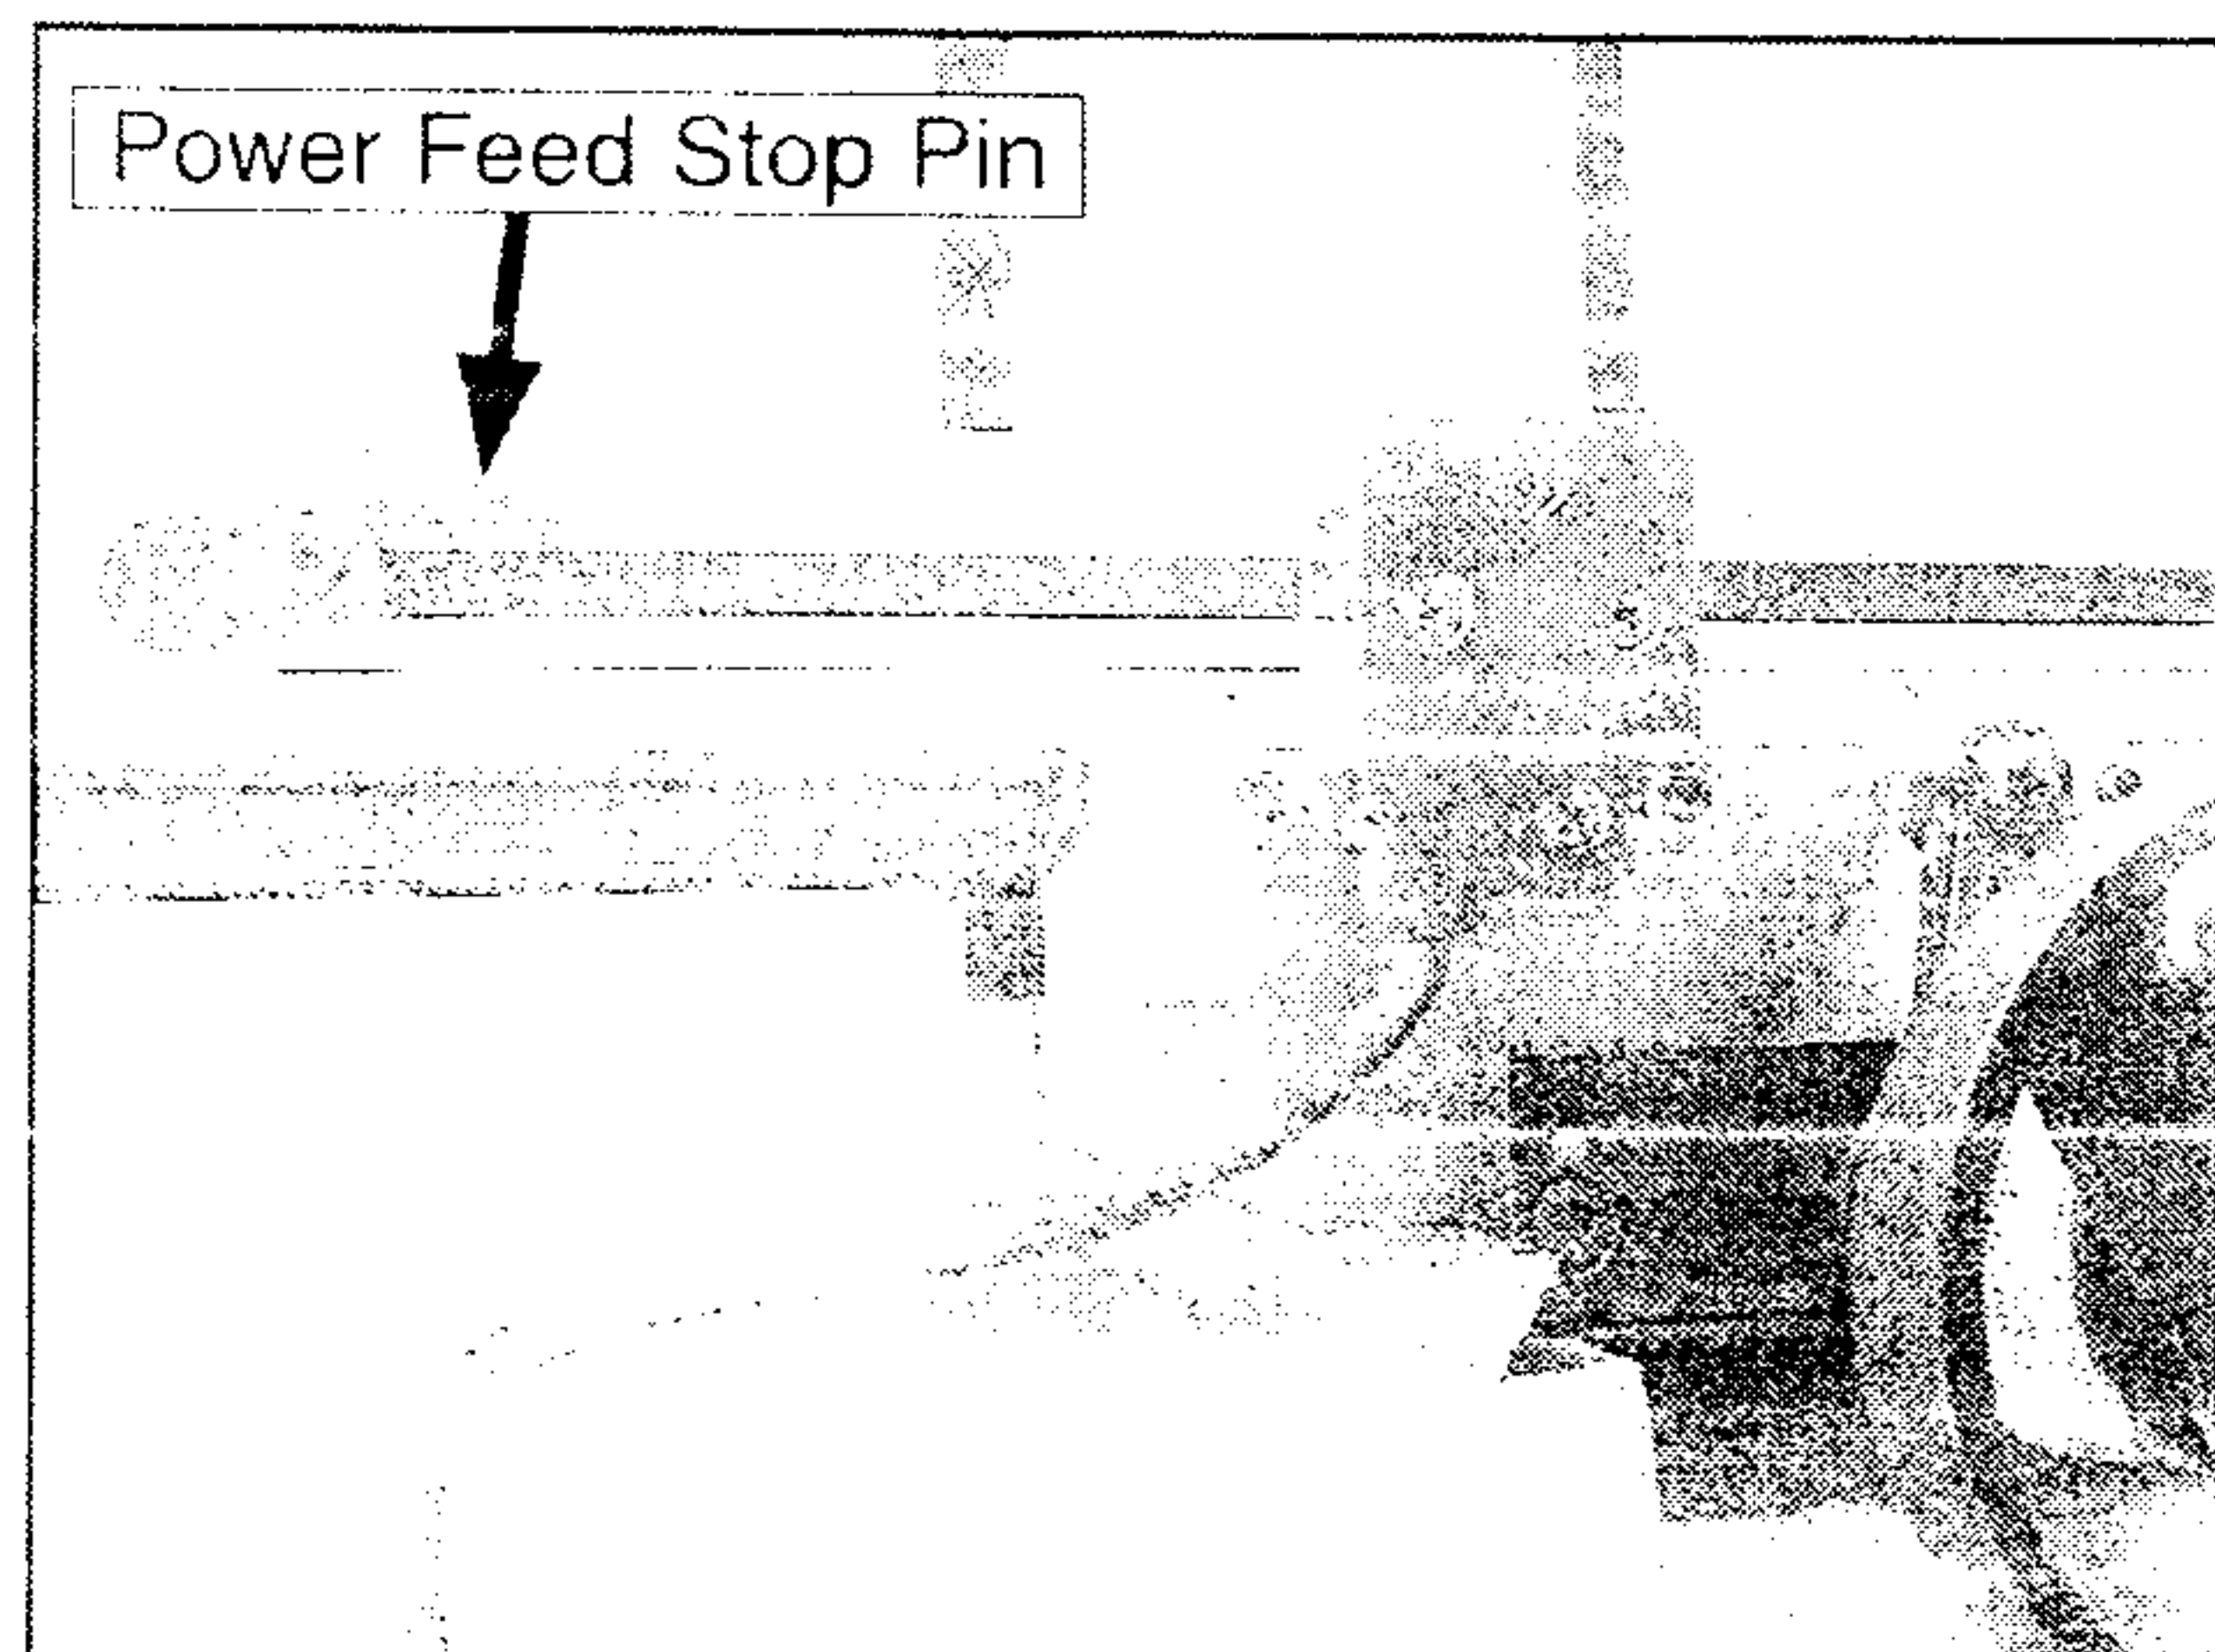

Figure 23. Power feed stop pin lubrication.
- Oil power feed stop pins (Figure 23).